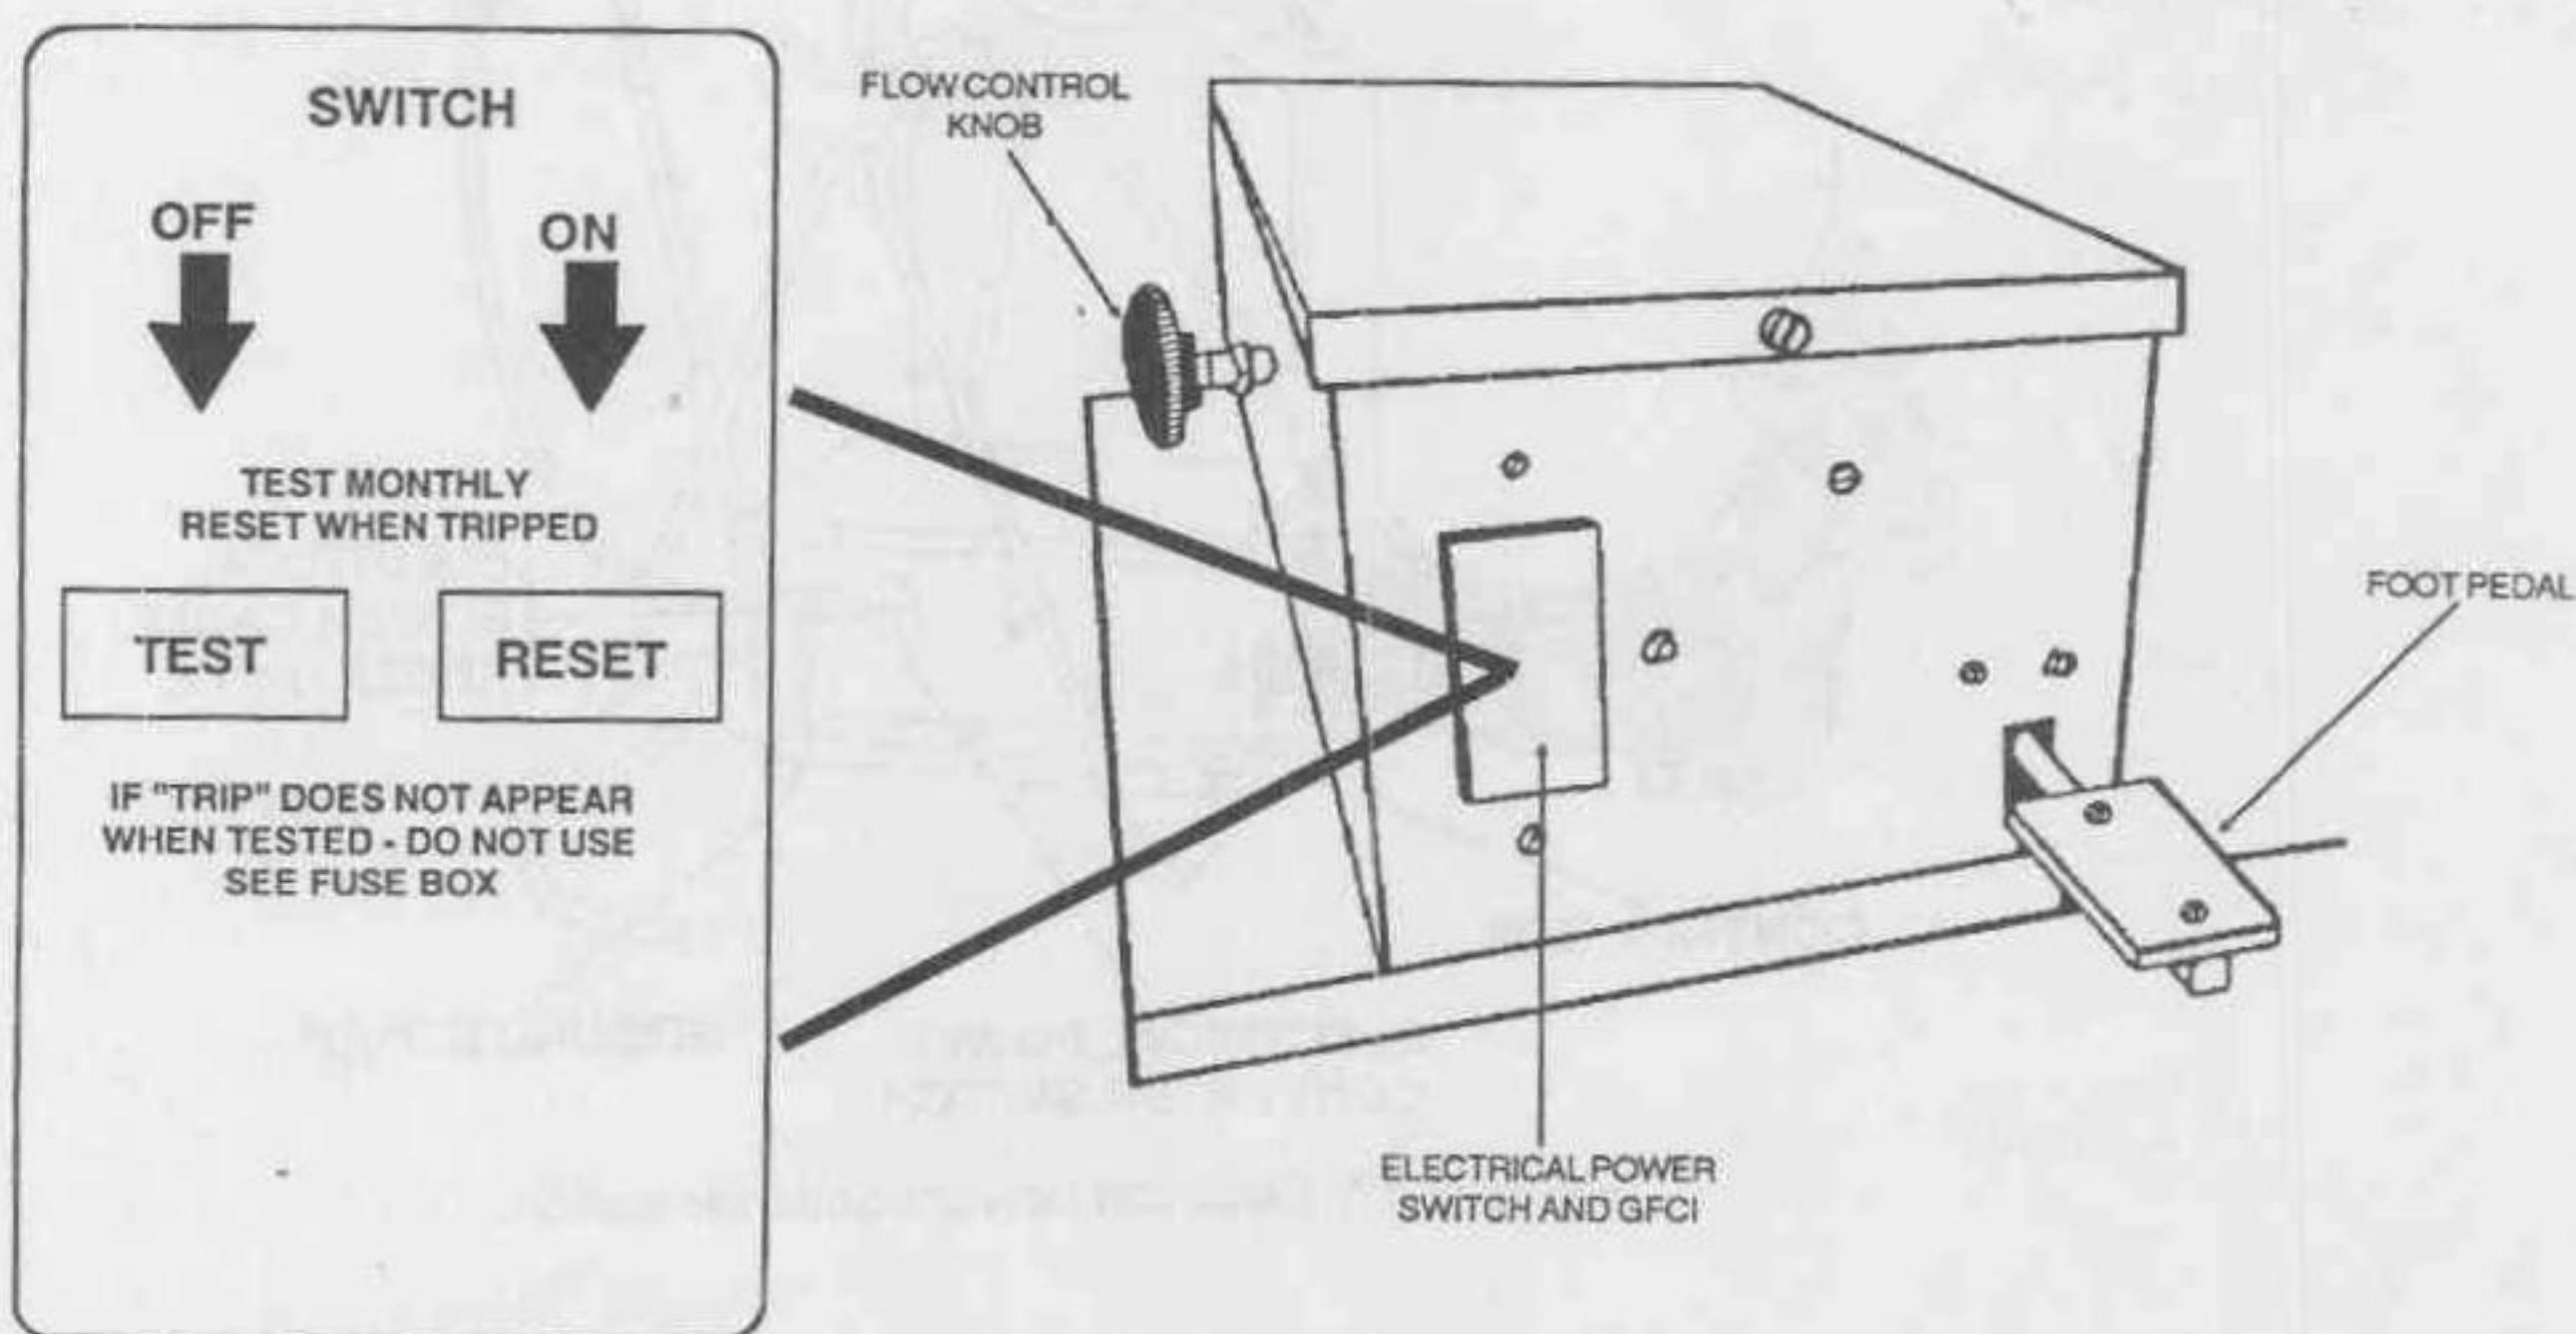

Figure 2-15. Control box components.
a. *Foot pedal* (fig 2-15). The foot-operated pedal is depressed to turn on the water pump and heater and allows water to be circulated, heated, and pumped out of the faucet. Releasing the pedal turns off the water pump, heater, and water flow from the faucet.
b. *Electrical power switch and ground fault circuit interrupter* (fig 2-15).
(1) The GFCI serves as the electrical power switch and as a safety device in the event of an electrical ground fault. The portable scrub sink is electrically powered by depressing the red button of the GFCI labeled "RESET/ON." The yellow button labeled "TEST/OFF" is depressed to shut off the sink.
(2) The portable scrub sink is tested for an electrical ground fault by depressing and holding the foot pedal while simultaneously depressing the "TEST/OFF" (yellow) button on the GFCI. The "RESET/ON" (red) button should spring out and shut off the unit.
c. *Flow control knob* (fig 2-15). The flow control knob is used to adjust the flow of water from various sources. The flow is increased by rotating the knob counterclockwise and decreased by rotating the knob clockwise. This control is normally only used when the portable scrub sink is initially set up for a specific source of water.